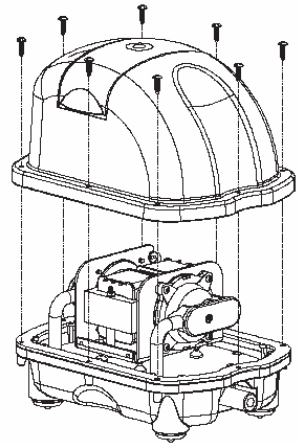

FIG. 2
1. Loosen the eight screws around the plastic upper cover and take the cover off. *(As shown in figure 2)*